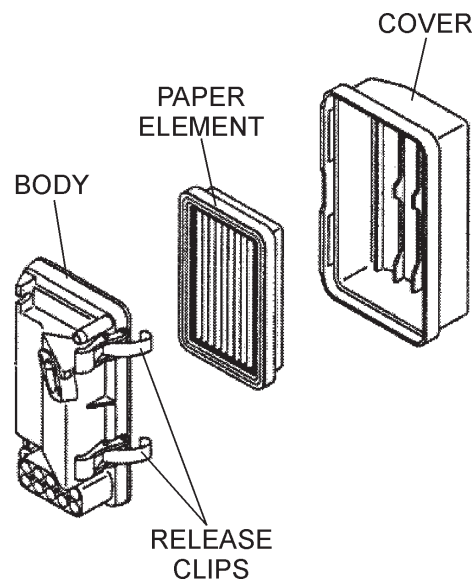

Figure 27. Engine Air Cleaner
- Remove the air cleaner cover and foam filter element as shown in Figure 27.
- Tap the paper filter element (Figure 27) several times on a hard surface to remove dirt, or blow compressed air [not exceeding 30 psi (207 kPa, 2.1 kgf/cm2)] through the filter element from the air cleaner case side. **NEVER** brush off dirt. Brushing will force dirt into the fibers. Replace the paper filter element if it is excessively dirty.